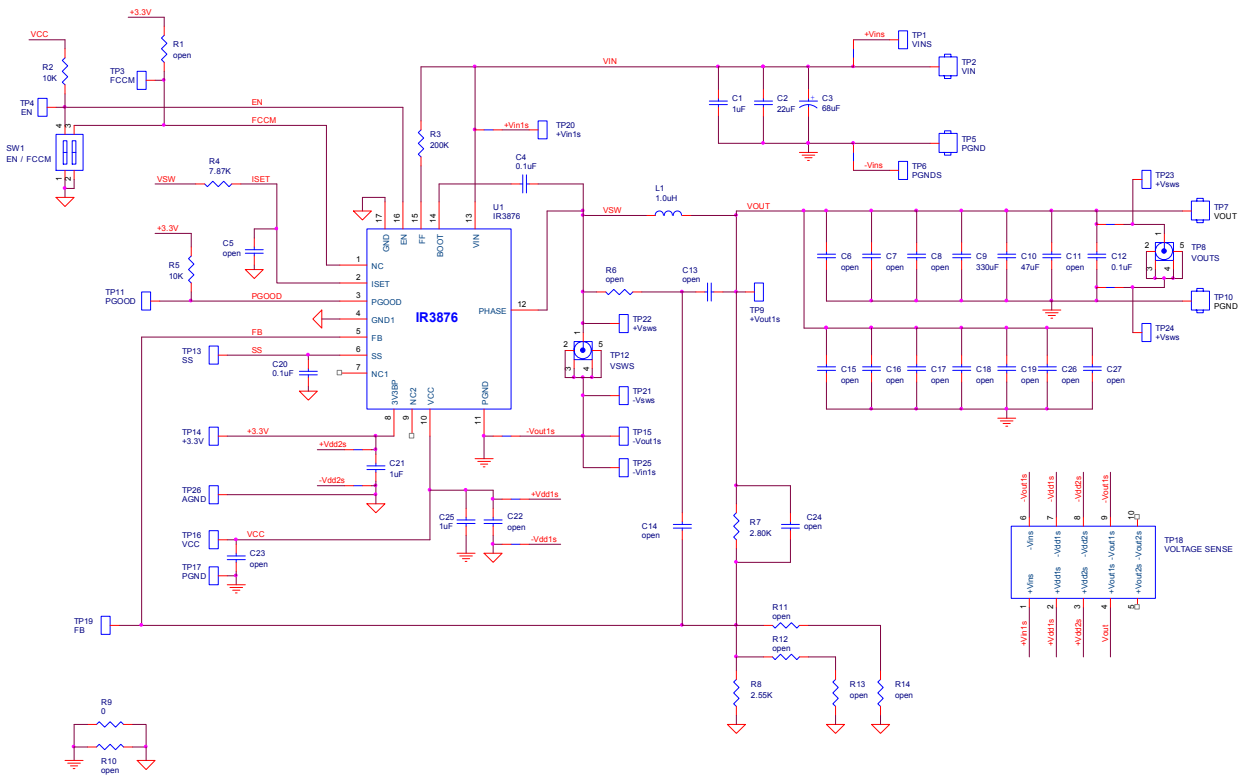

Figure 7. Typical Application Circuit for VOUT = 1.05V, Fs = 300kHz
Tested with demoboard shown in Figure 7,  $V_{IN} = 12.6V$ ,  $V_{CC} = 5V$ ,  $V_{out} = 1.05V$ ,  $F_s = 300kHz$ ,  $T_A = 25^{\circ}C$ , no airflow, unless otherwise specified
Tested with demoboard shown in Figure 7, VIN = 12.6V, VCC = 5V, Vout = 1.05V, Fs = 300kHz, TA = 25°C, no airflow, unless otherwise specified
- For applications with all ceramic output capacitors, the ESR is usually too small to meet the stability criteria. In these applications, external slope compensation is necessary to make the loop stable. The ramp injection circuit, composed of R6, C13, and C14, shown in Figure 7 is required. The inductor current ripple sensed by R6 and C13 is AC coupled to the FB pin through C14. The injected ramp slope can be adjusted by changing the RC time constant of R6 and C13, which is similar to the circuit used for DCR current sensing. C14 is typically chosen by  $C14 \cdot (R7//R8) = T_{\text{on}}$ .